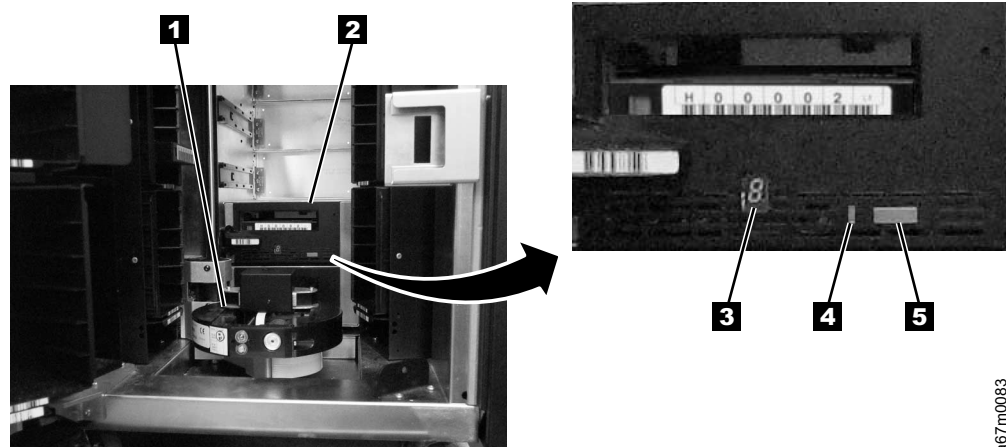

Figure 212. Resetting the tape drive
3. Locate the drive that contains the stuck tape cartridge. If the picker ( **1** in Figure 212) is in front of the drive **2** , gently lift and hold the picker out of the way.